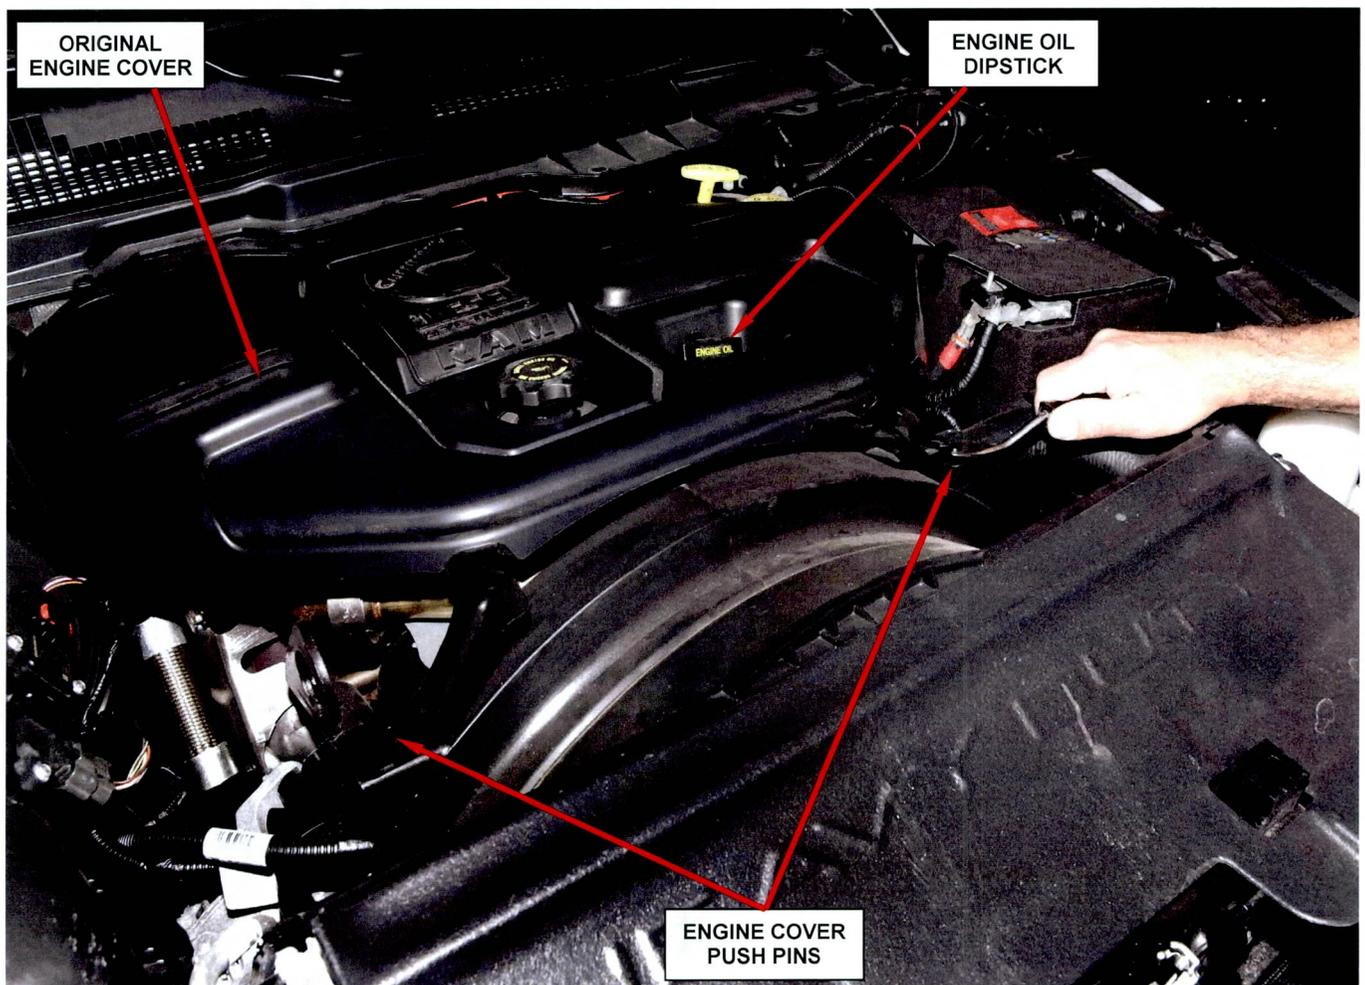

Figure 1 – Original Engine Cover
3. Remove and discard the engine cover push pins on the radiator fan shroud (Figure 1).
4. Remove and save the engine oil dipstick (Figure 1).
5. Remove the original engine cover from the engine (Figure 1).